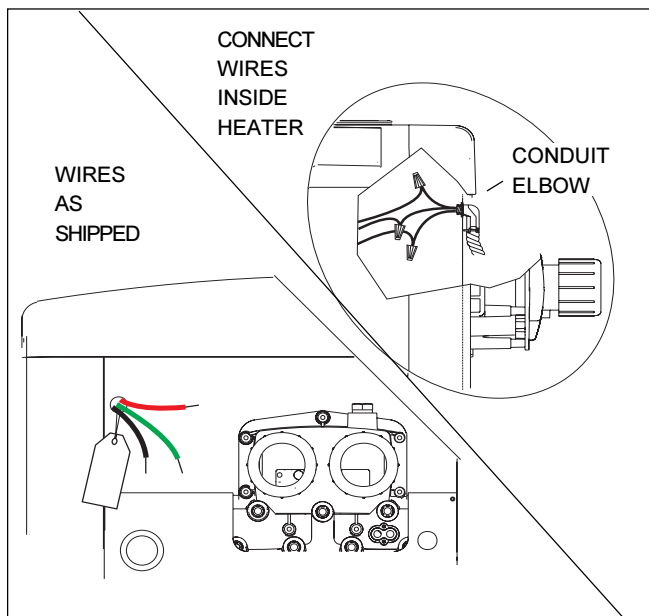

Figure 9. Field Wiring Connections.
2. Connect the wires from the source to the leads on the right side of the heater in the space behind the raceway (see Figure 9).